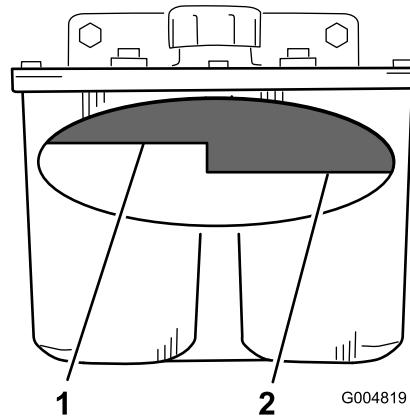

Figure 69
2. Clean the area around filler neck of hydraulic tank (Figure 69).
3. Remove the cap from the filler neck. Look inside to check if there is fluid in the reservoir (Figure 69).
**Note:** The fluid level should be to the top of the hot level of the baffle, when the fluid is hot (Figure 69).